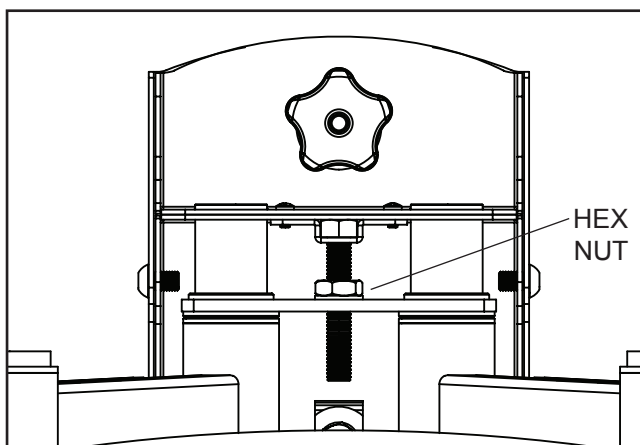

fig 8.1
- To raise screen, turn hex nut shown in figure 8.1 clockwise with 3/4" open-end wrench (not provided).
- To lower screen, turn hex nut shown in figure 8.1 counterclockwise with 3/4" open-end wrench (not provided).